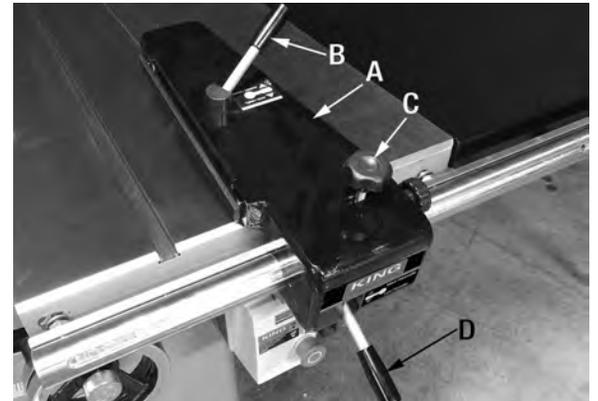

FIGURE 12
4. Slide the rip fence body (A) Fig.12 onto the rip fence bar and place it on the table.
5. Install the rip fence lever (B) Fig.12, then install the lock handle (C) into the rip fence body as shown.
6. Install the main lock lever (D) into the rip fence body as shown.
7. Align the slot of the rip fence face (A) Fig.13 (up or down position) with the t-bar (B) of the rip fence body, and slide fence face onto the rip fence body. Lock the face to the body by turning rip fence lever (C) Fig.12 clockwise.
9. Move the rip fence so the face (C) lines up perfectly with the T-slot (D) of the main table. Lock the rip fence by lowering the main lock lever (D) Fig.12.